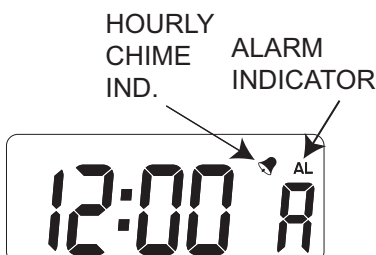
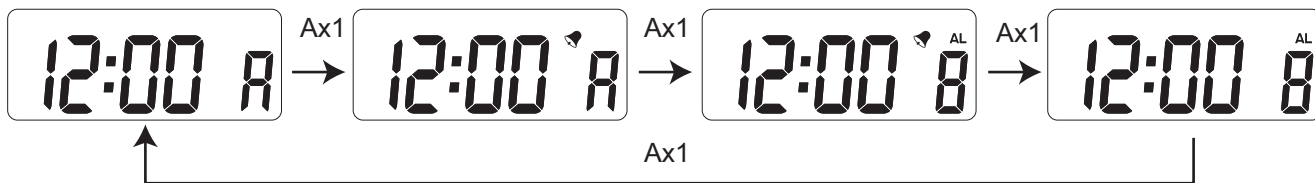

Fig. 5
Fig.6
3. From the normal HOUR/MIN/SEC display depressing and holding B will display the ALARM time, as shown in Fig.5 (display will revert to normal HOUR/MIN/SEC display if B is no longer depress). Each epression of A will sequentially turn on the hourly chime, turn on the alarm, turn off the hourly chime, and turn off the alarm in that order, as Fig. 6.
5. From the normal time display mode depress B an hold C for sec. will go to the ALARM time setting mode with the ALARM hour digits and the ALARM SET indicator blinking, press A to set the digits and A to select the digits, as shown in Fig. 6. The ALARM is armed automatically if the contents have been set. When the normal time coincides with the ALARM time the stopwatch the alarm will sound for 30 seconds. Depression of any button when the alarm sounds stops the alarm.